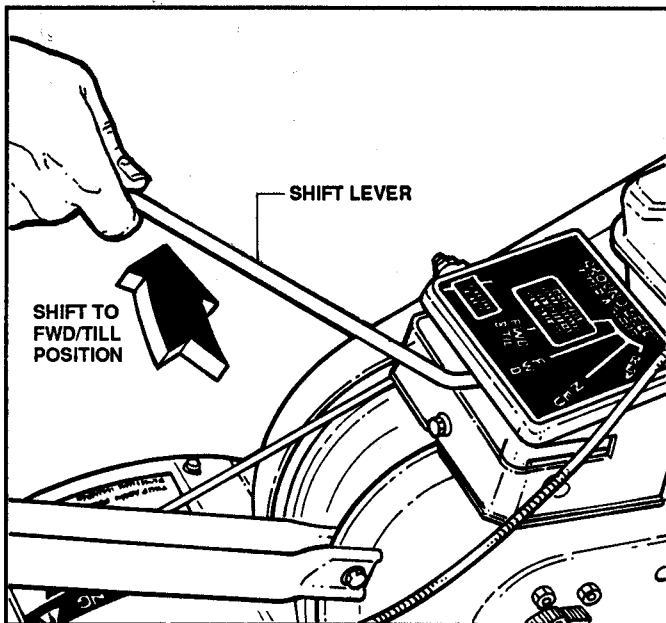

FIGURE 8
4. **BEGIN TILLING** by shifting TRANSMISSION LEVER to FWD/TILL position. Step behind tiller and lift "UP" on WHEEL & TINE CONTROL to start tilling. See Figure 8.